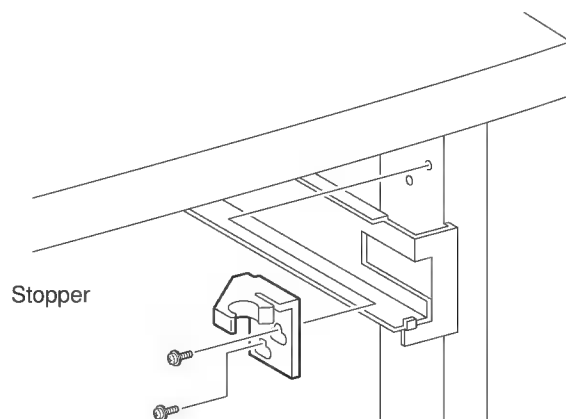

Figure 1
4. Remove the two screws securing the Tray Stopper to the LCIF frame and remove the Stopper (Figure 1).